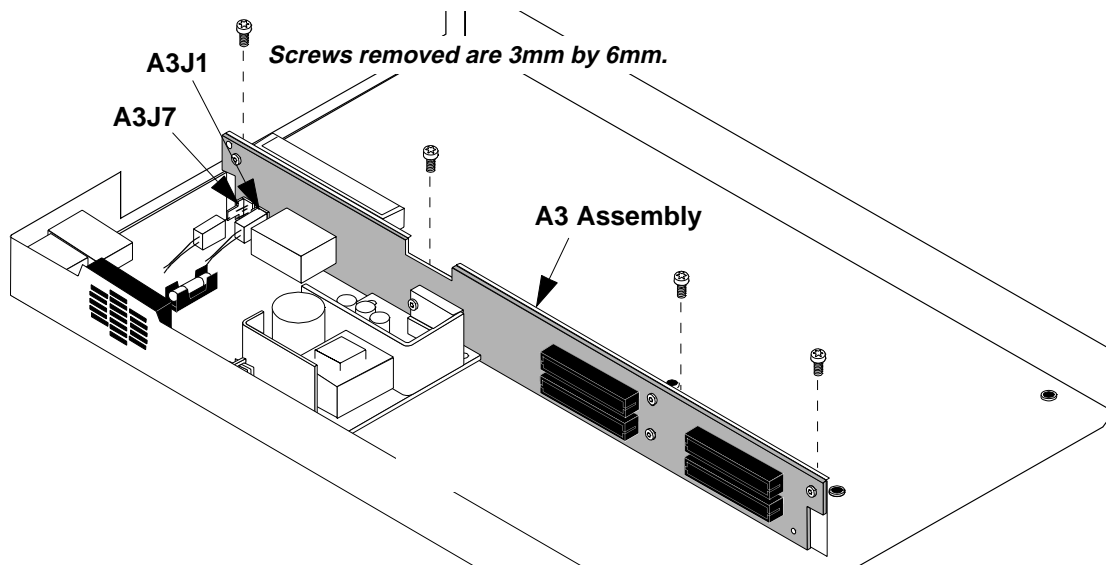

Figure 32 Removing the A3 Motherboard Assembly
7. Remove the power connectors from the J7 and J1 connectors on the A3 assembly, see figure 32.
8. Remove the 4 screws securing the A3 assembly to the deck, see figure 32, and lift the A3 assembly from the deck.